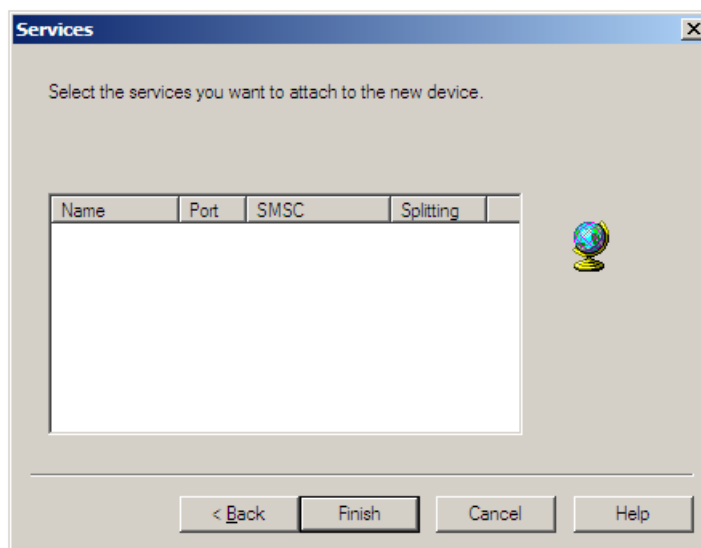

Figure 83. Services Dialog
14. Click **Next** after entering information into the Initialization dialog. The Services dialog as shown in Figure 83 is displayed.